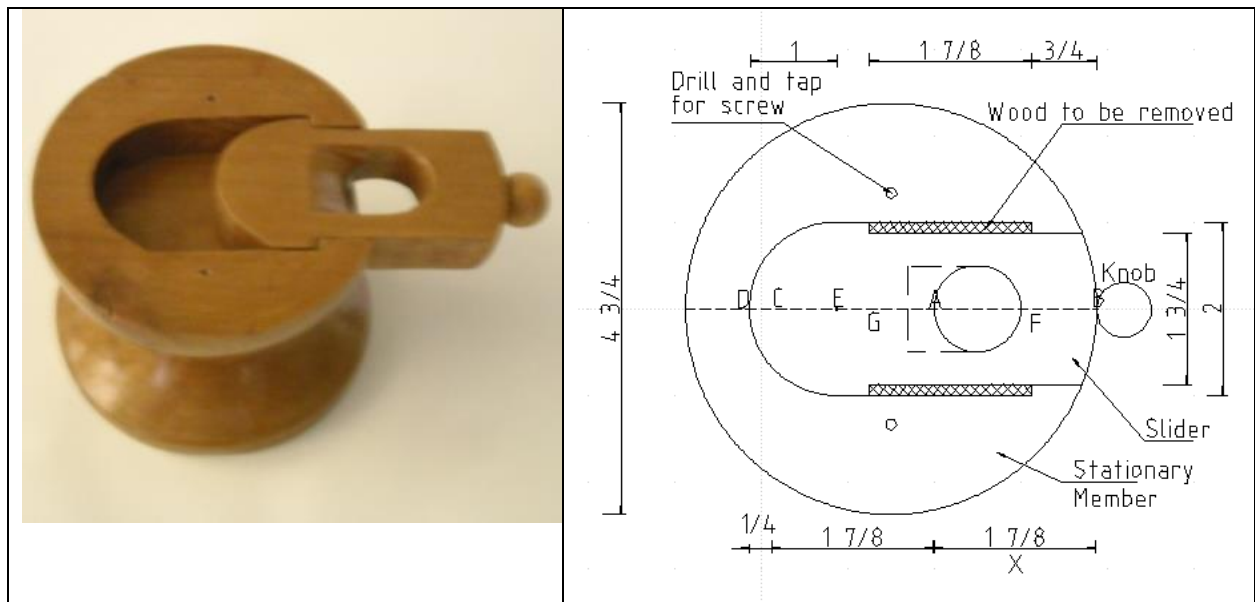

Figure 3
platform. The top of the platform is sloped to funnel candy into the hole. Two holes are drilled and countersunk so the platform can be screwed to the stationary member (see Figure 3). Screws, not glue, are used so the dispenser can be dismantled for cleaning or maintenance. The bottom of the platform is flattened.
Slider Mechanism, Figure 3
For simplicity, the discussion that follows assumes the slider mechanism (the disk) is still 4 3/4" in diameter. Once you understand how to mark and cut the disk you can modify the dimensions to suit your actual case. The important dimensions are shown in Figure 3.
Measure the distance from the left side of the hole (A) to the right edge of the bottom of the disk (B). This is the distance the slider must travel. This distance, called X at the bottom of Figure 3, is 1 7/8". On the top of the disk mark a point on the center line a distance X to the left of the left side of the hole (C). This mark will be even with the hole in the platform when the slider is fully extended. Place another mark 1/4" to the left of C to define the left side of the slider (D). The additional 1/4" of length prevents candy from getting behind the slider. Measure 1" to the right of D and mark (E). Set a compass to a 1" radius and draw an arc centered on E that connects the top and bottom lines and passes through D.
The crosshatched area in Figure 3 determines how far the slider will travel. Make a mark on the center line 3/4" from the edge of the slider (F). Make a mark a distance X to the left of the previous mark (G). Extend marks F and G up and down to define the edges of the crosshatched areas.